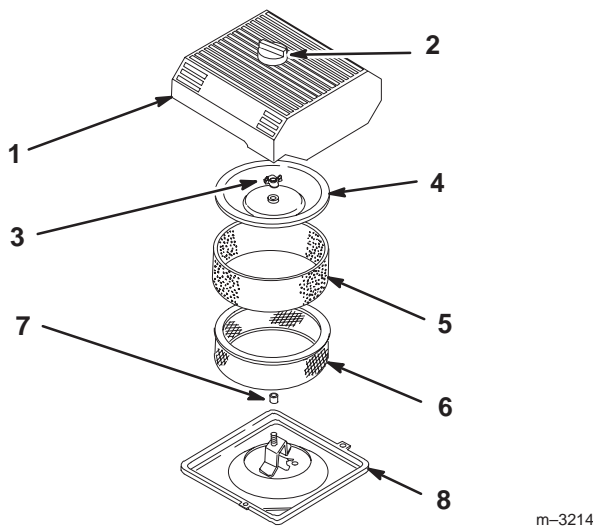

Figure 24
3. Clean around the air cleaner to prevent dirt from getting into the engine and causing damage (Fig. 24).
- Loosen the knob on the air cleaner cover and remove the cover (Fig. 24).
- Carefully slide the foam element off the paper element (Fig. 24).
- Unscrew the cover nut and remove the cover and paper element (Fig. 24).
- Carefully slide the foam element onto the paper air cleaner element (Fig. 24).
- Install the cover nut finger-tight against the cover (Fig. 24).
- Install the air cleaner cover and knob (Fig. 24).